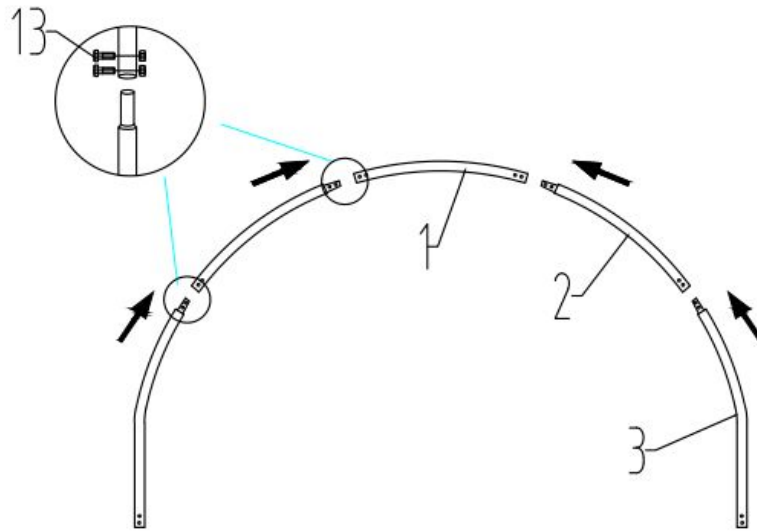

Figure 3
1. As Figure 3 shown to find one Roof Bent Tube (No.1), two Middle Bent Tubes (No. 2), Lower Bent Tube (No. 3) and assemble every group arch with Screw M8x60 (No.13). DO NOT install the screw on the top of the truss where the fabric will rest.